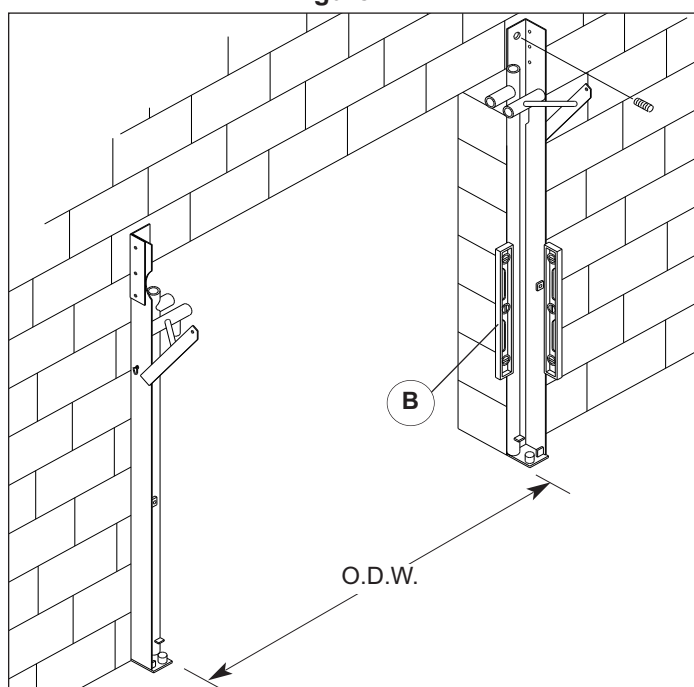

Figure 4.2
2. Using a 6' level (B) verify that the door frame is plumb, both front to back and side to side. Shim as required, Figure 4.2.
3. Using the pre drilled holes in the side frames as a template, drill and insert the concrete anchors. If the wall construction is of either wood framing or metal make sure to use the proper fasteners. 1/4" [7] weld here (C). Maintain 3/4" [19] gap (D).